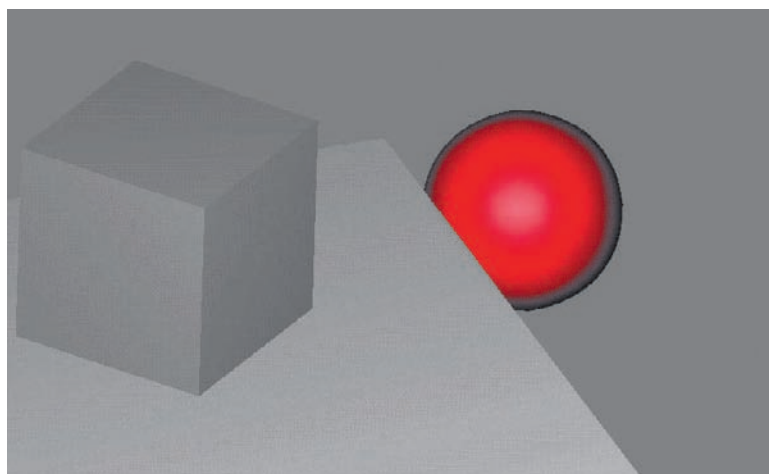

Figure 6.18 An even more exciting game of “Push the Sphere into the Abyss with the Cube”
13. Press P again. Notice how the sphere and the cube interact. You can now drive the cube around by rotating right and left with the arrow keys and moving forward with the spacebar. Try pushing the sphere off the plane as in Figure 6.18. Press Esc to get out of this. Experiment with adding more objects with and without Actor enabled, and playing around with the angle and shape of the plane.